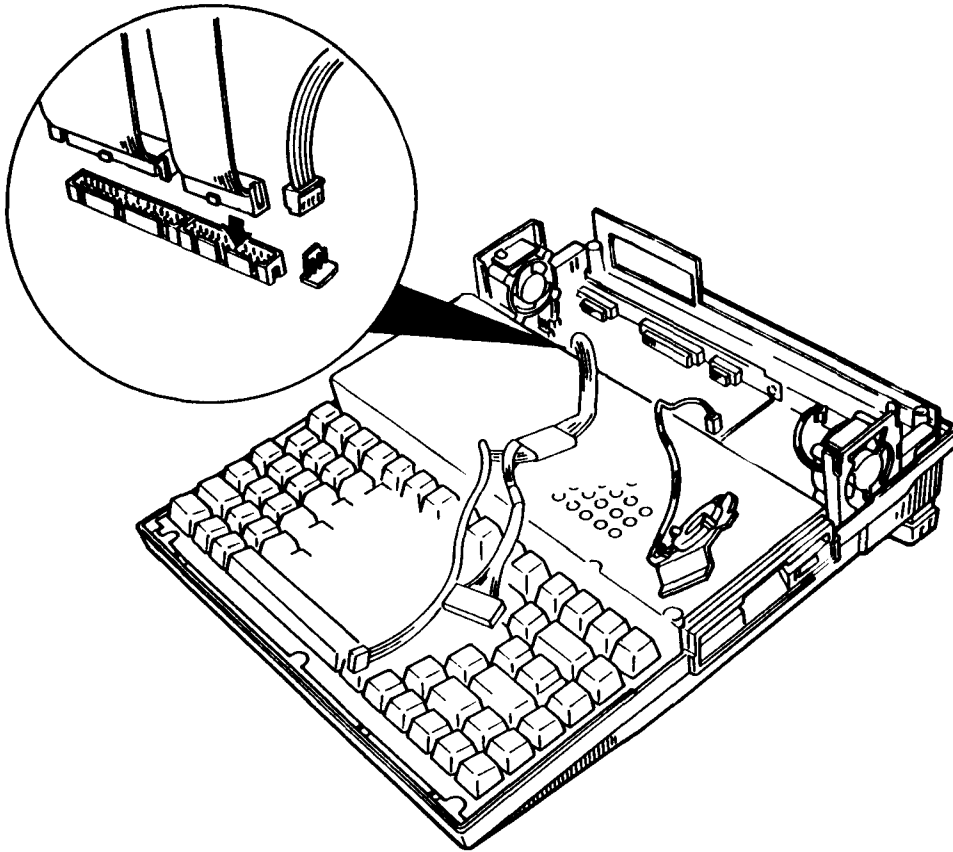

FIGURE 2-4 FDD Connector Check
3. Check that the FDD connection is secure. (Refer to figure 2-4.)